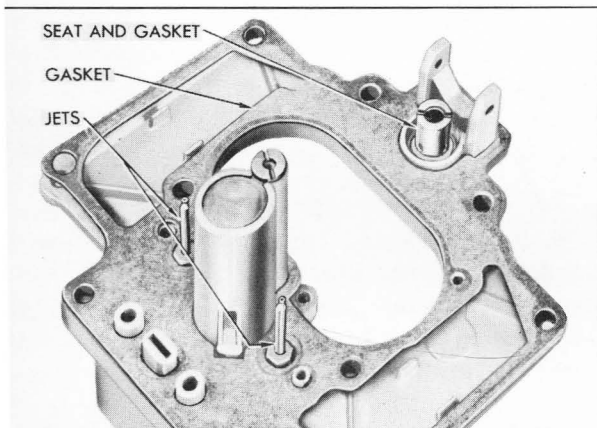

Figure 3-46—Needle Seat, Gasket, and Low Speed Jets
12. Remove float needle seat and gasket, using large screwdriver. Remove both low speed jets, and cover gasket from bowl cover. See figure 3-46.